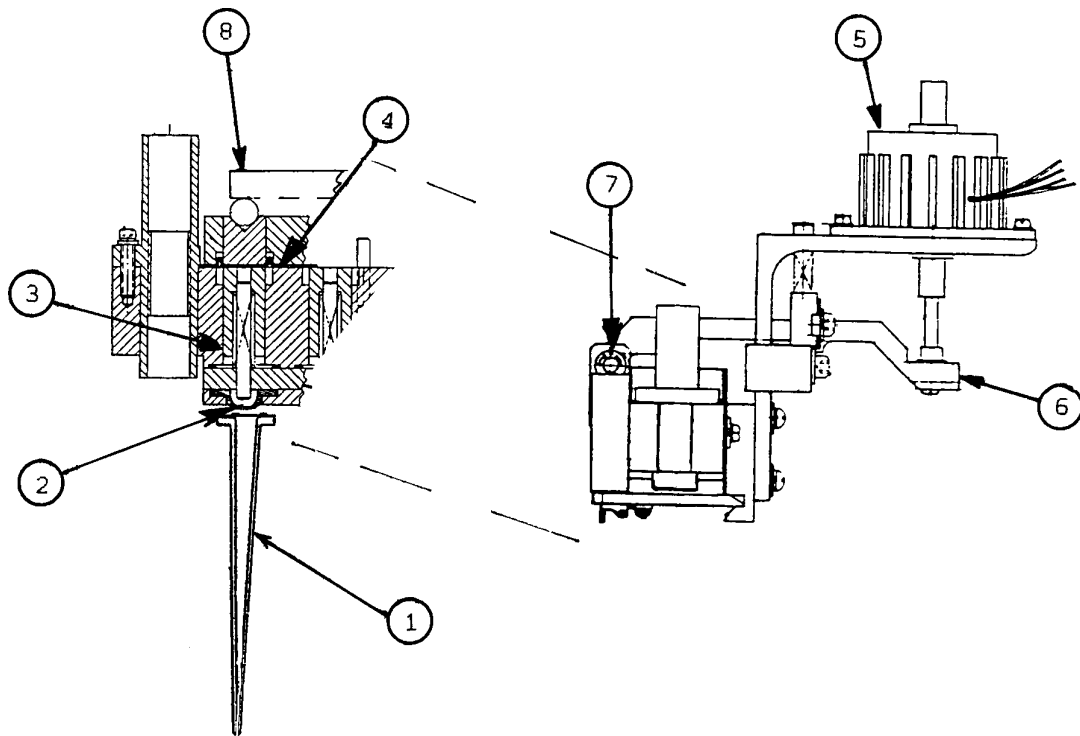

Figure 4-2 Reagent Handling System
A cross section of one pipettor in the pump assembly is shown in Figure 4-2. The SPR (1) is connected to the pipettor by a resilient grommet seal (2). Fluids are moved in and out of each SPR channel by an air displacement piston. This piston (3) is sealed using a low-friction rolling diaphragm (4) that maintains a constant effective piston area throughout its operating range. The actuating system is designed to provide a linear translation of actuator arm motion to piston movement and thus fluid displacement.